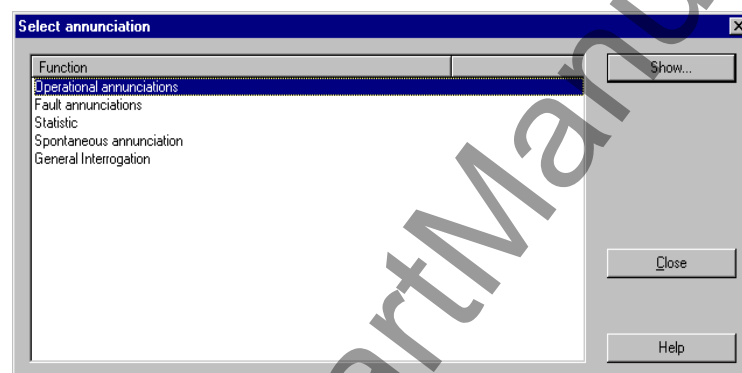

Figure 6-4 Select annunciation window in DIGSI of the bay unit
- ❑ Open the window Select annunciations (Figure 6-4, page 209).